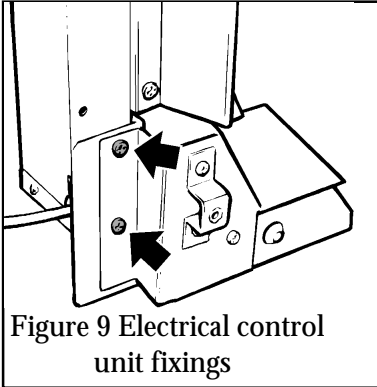

Figure 9 Electrical control unit fixings
- 2) Detach the control unit from the convection box left side flange by removing two screws (see figure 9). Carefully pull the unit slightly forward.